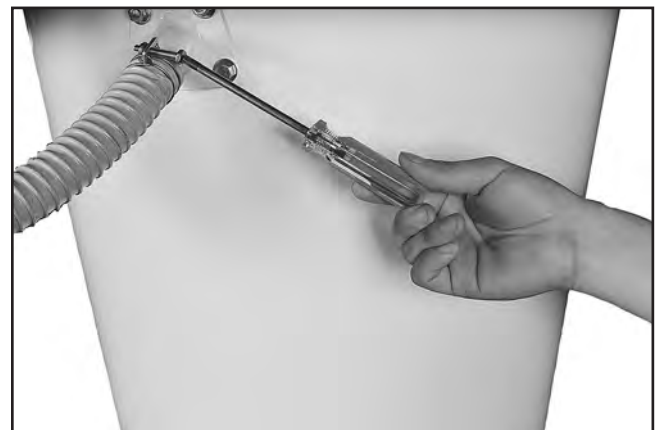

Figure 17. Cyclone vacuum tube and hose attachment.
- Attach the cyclone vacuum tube to the cyclone funnel with (4) $\frac{5}{16}$ "-18 x $\frac{3}{4}$ " hex bolts and (4) $\frac{5}{16}$ " flat washers, as shown in **Figure 17**.